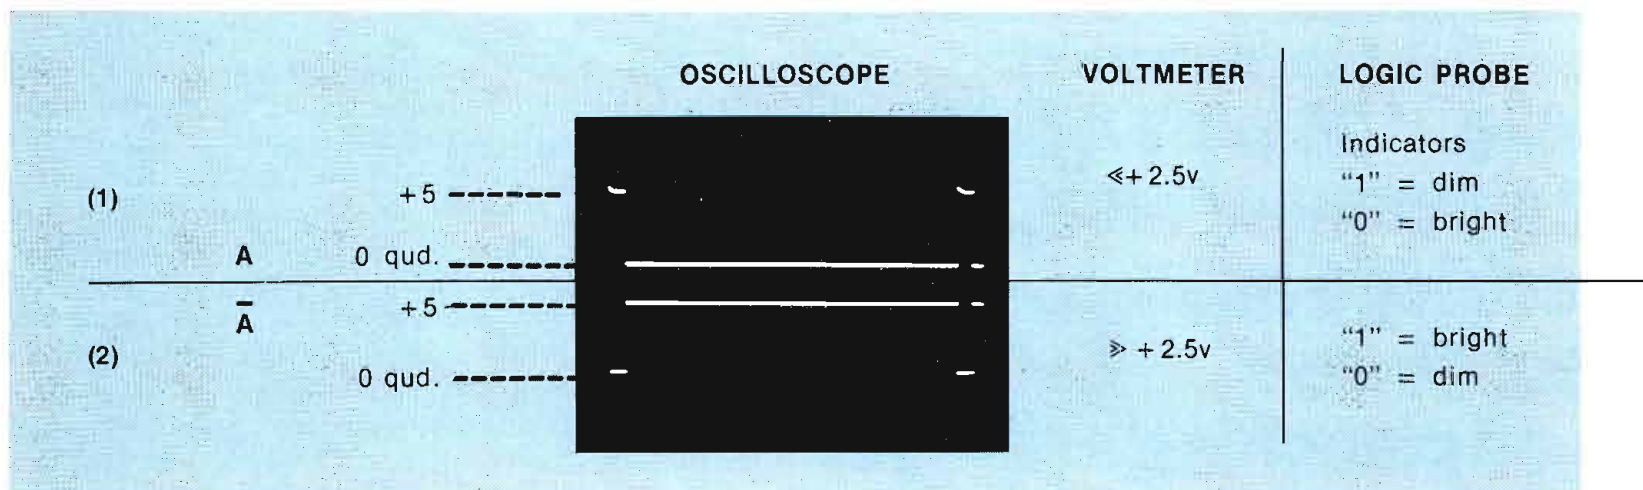

Figure 2. A complementary waveform is inverted, but in both cases, low equals zero or ground, and high equals +5 volts in this example.
Figure 2 shows you exactly what **complementary** waveforms are. If waveform (1) is A, waveform (2) is $\bar{A}$ (A NOT). If waveform A is 010101, then waveform $\bar{A}$ is 101010. Note that in either case, the "low" is ground, and the "high" is +5 volts. This is the most usual clock waveform voltage for TTL (transistor-to-transistor logic).